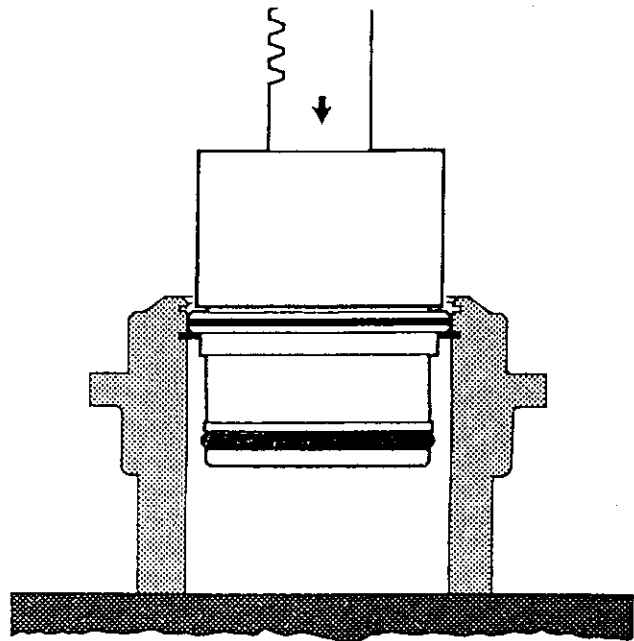

Figure 5.20
9. Press the bearing retainer (14) into position in the drive housing (24), as shown in Figure 5.20.